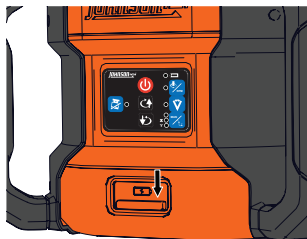

Figure 3
5. Disconnect the Type C, USB adapter/charger and close the recharge port. (Figure 3)